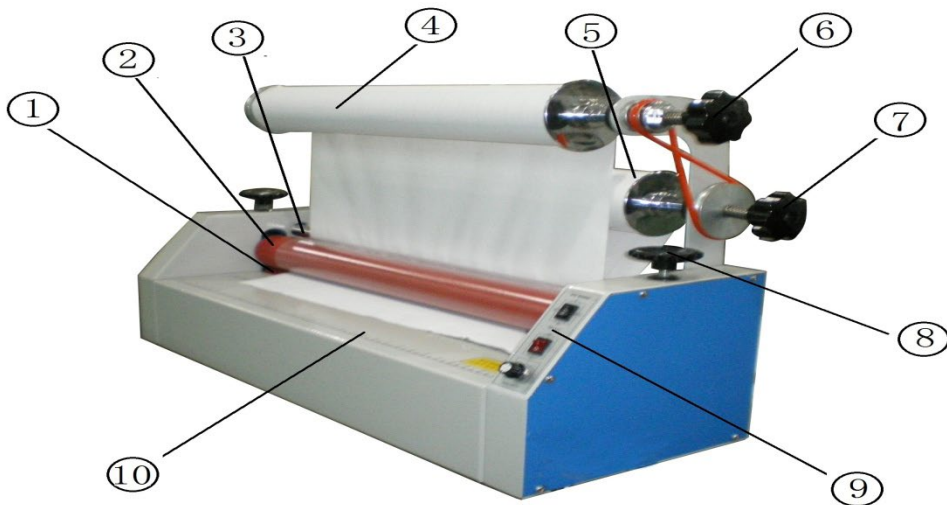

Figure 1
6. The film unwind and media take-up rollers are designed to accommodate a full 50-yard roll of overlaminate film. One end of the release liner take-up roller has a handle (Figure 1), used to adjust the friction to ensure that the speed of the liner take-up roller is in synch with that of the laminator pressure rollers. Rotate the handle clockwise to increase friction and slow the liner take-up roller. Turn it counter-clockwise to reduce friction and speed up the liner take-up roller.